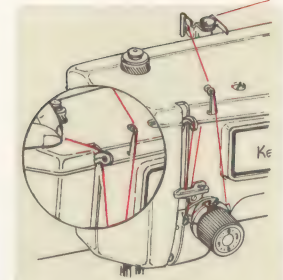

Fig 4
4. Continue threading through the front thread guide, hook thread into take up lever and down through path shown in Fig. 4 and 5.